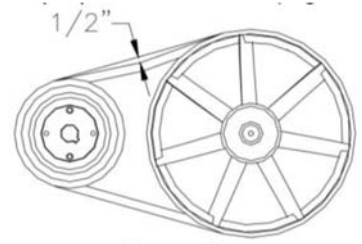

Figure 10
- 7) Check for proper belt tension. (See Figure 10)